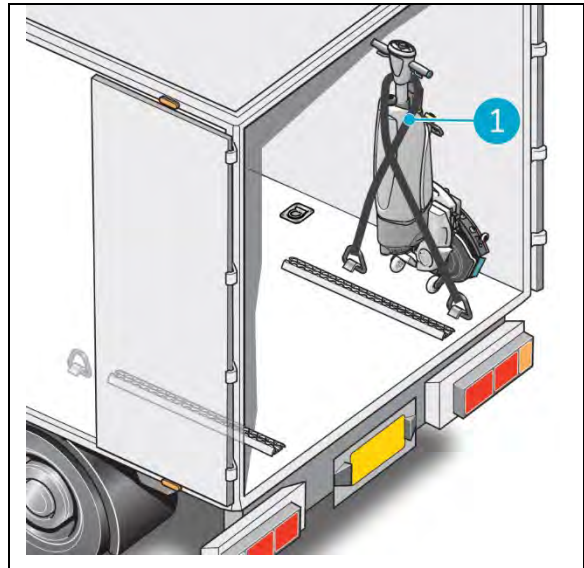

Figure 7
5. Secure the i-mop using a tension belt or another appropriate restraint (Figure 7, pos 1).